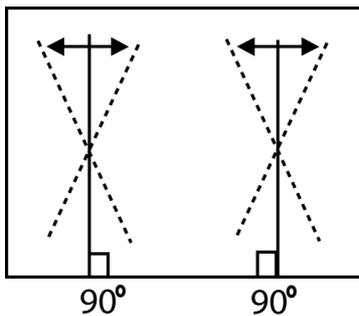

Fig. 5a
3. Adjust the vertical line straight line of bothside vertical line in Fig. 5a by Trapez.